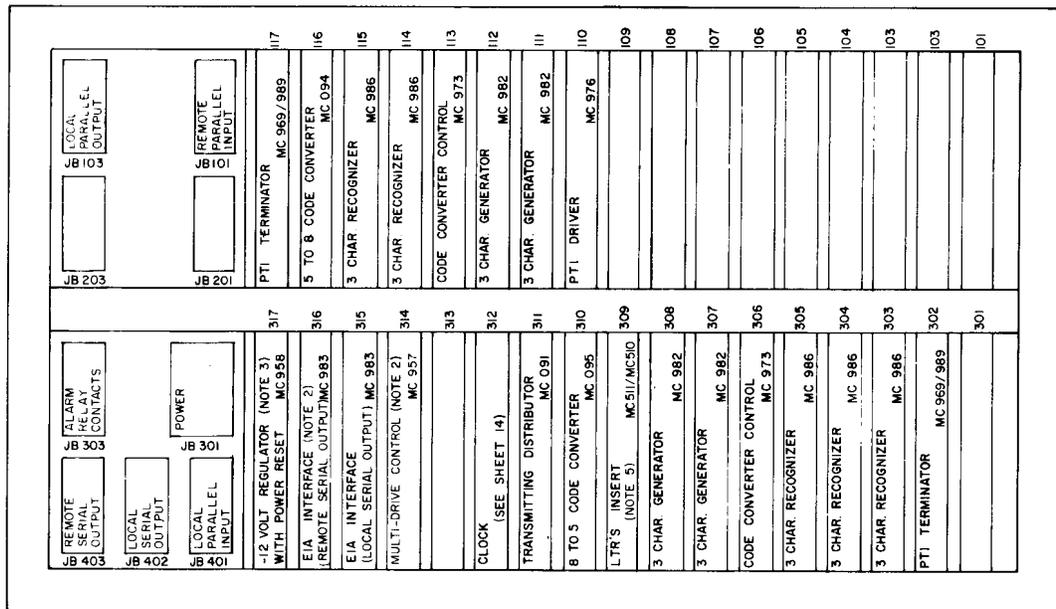
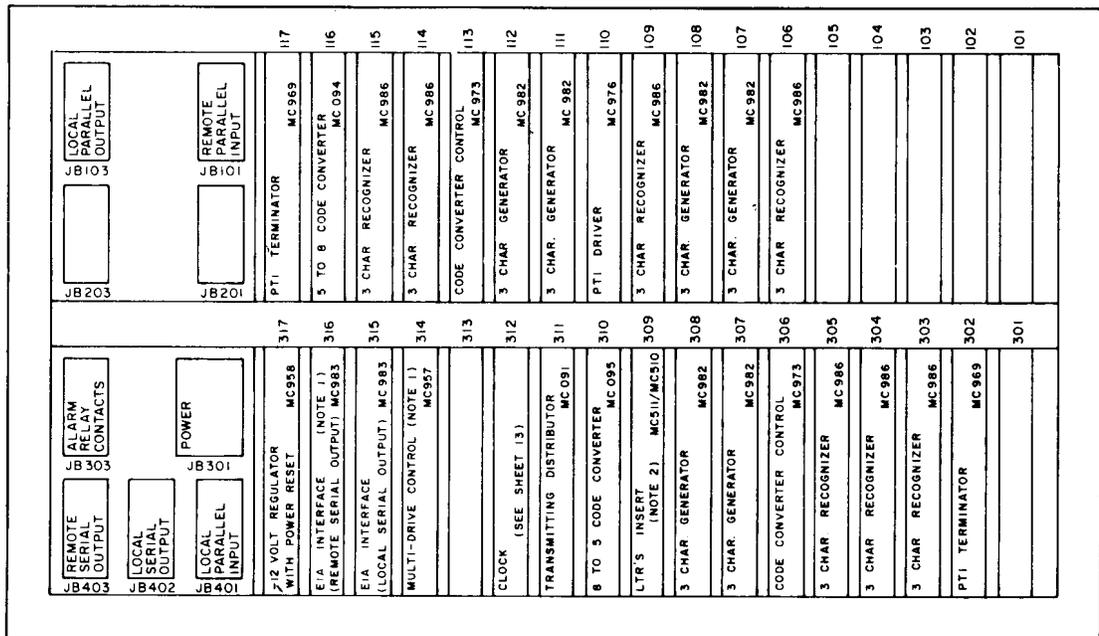

Figure 18 - CDIF806 Interface Module
Figure 19 - CDIF816 Interface Module
5.81 The CDIF806 module (Figure 18) and CDIF816 (Figure 19) provides interfacing between various sending and receiving equipment and terminals using a Communications Display Terminal (CDT).
5.93 Remove the TP322982 (MC982) circuit cards from connector positions ZB111 and ZB112 (CDIF806 and CDIF816), and ZB107 and ZB108 on CDIF816 (Figures 18, 19, and 22). Program bit levels in rows X, Y, and Z on each card for generation of up to three message delimiter characters.
5.101 Remove TP322982 (MC982) circuit cards from ZB307 and ZB308 (Figures 18, 19, and 22). For convenience, a permanent reference of the programmed cards may be made by recording the character in the empty paren-
5.105 Remove TP322957 multidrive control circuit card (MC957) from module location ZB314 (Figures 18, 19, and 23). Three